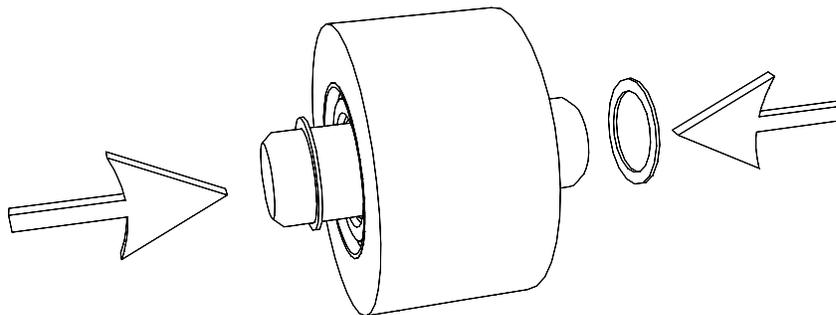

Fig. 13 - Make sure you put the washers on before installing.
- 3) Once the wheel and pin are out, remove the wheel and replace with the new one. Make sure you put the washers on either side of the wheel before re-inserting. See Fig. 13